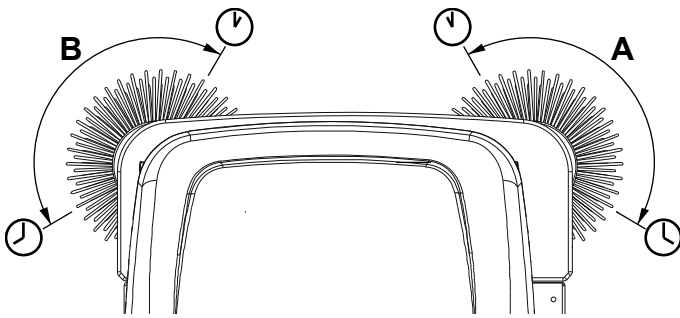

Figure 4
3. Turn the ignition key (57) and start the machine.
4. Lower the side broom with the lever (52) and let it run for 1 minute.
5. When lowered, the side broom (9) (15, optional) should be contacting the floor as shown in the figure (A and B, Fig. 4).